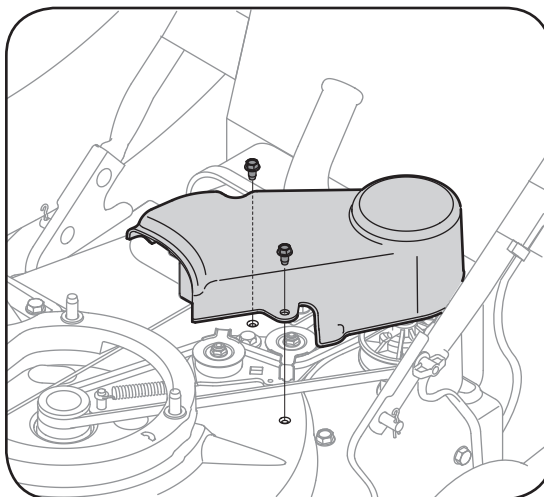

Figure 16
4. Remove the three self tapping screws securing the belt cover, and remove the belt cover. See Figure 16.